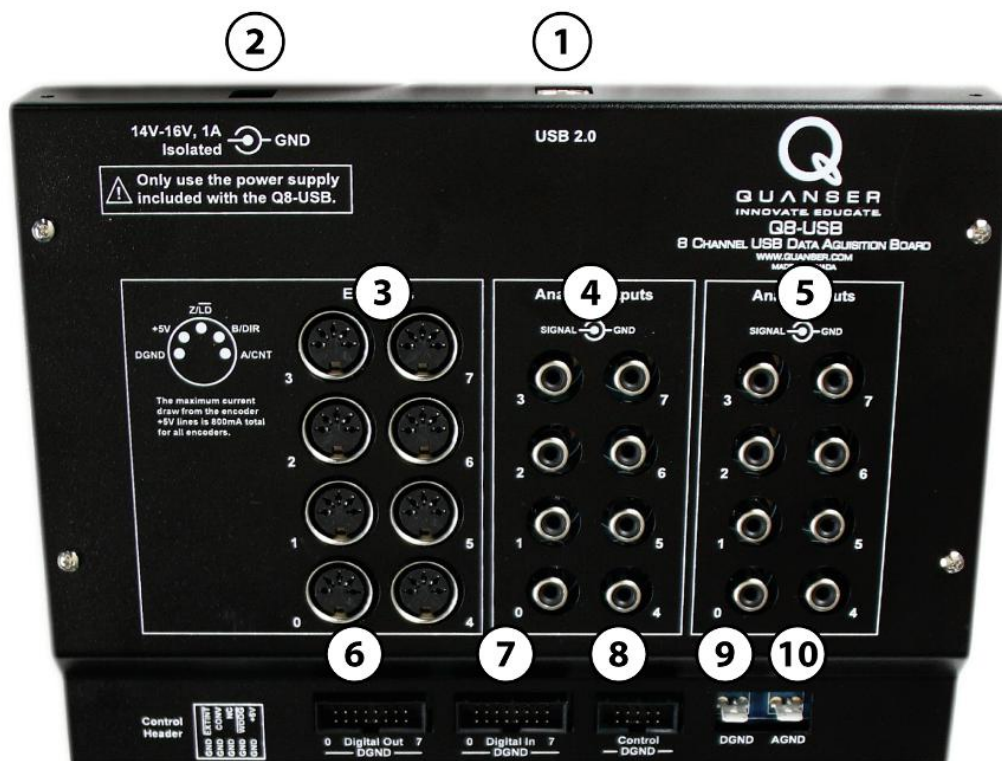

Figure 3.1: Q8-USB
The components on the Q8-USB are depicted in Figure 3.1. Each component on the board has an identification number that corresponds to a short description given in Table 3.1.
The *Analog Output* RCA connectors are shown in Figure 3.1 with (ID #4). The 12-bit single-ended analog outputs have a range of $\pm 10V$ at a maximum of 5mA per channel. A 20mA short-circuit clamp is in place for circuit protection. See Section 2 for more specifications.
The Q8-USB has eight *Analog Input* RCA connectors, shown in Figure 3.1 with ID #5. The 16-bit single-ended analog inputs have a range of $\pm 10V$. See Section 2 for more specifications.
The *Digital Output* (DO) header, shown in Figure 3.1 with (ID #6) has the pins on one side connected to digital ground, as indicated on the terminal board case. DO0-DO7 output 0V to 5V. Each pin can drive up to 32mA, but the maximum total current for all eight pins cannot exceed 100mA. The digital outputs can also be configured as PWM outputs.
The *Digital Input* (DI) header, shown in Figure 3.1 with (ID #7) has the pins on one side connected to digital ground, as indicated on the terminal board case. DI0-DI7 can input 0V to 5V logic.
The Q8-USB has eight 5-pin DIN Encoder Input connectors, Figure 3.1 with #3. Each encoder can provide a 24-bit count values and supports non-quadrature (count and direction) and 4x quadrature.